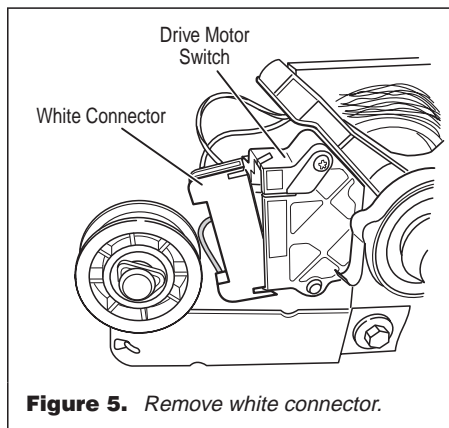

Figure 5. Remove white connector.
5. Remove the white connector from the drive motor switch. See figure 5.